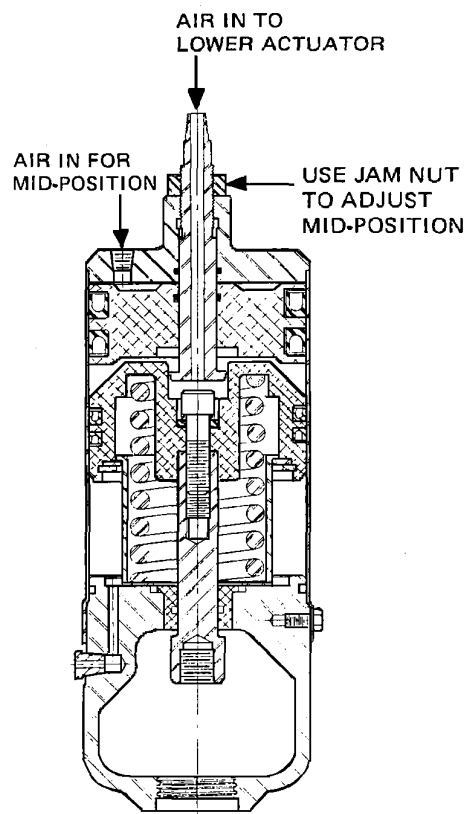

Figure 5. Air Line Connections for Three Position Actuators
2. For three position actuators, make the connections as shown in Figure 5.